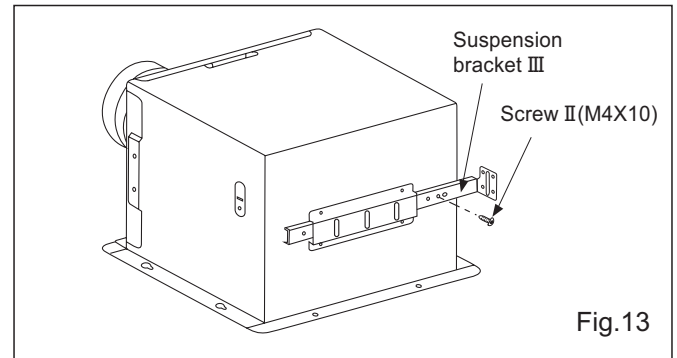

Fig.13
2. Connect the suspension bracket III to fan body. (Fig.13)